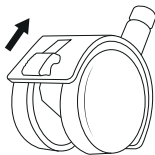

Fig. 1
- ◆ The appliance comes with four castors **8/9** for easy transport. Release the levers on the two castors with locking levers **9** by pushing the levers upwards (see fig. 1). The appliance can now be rolled conveniently.